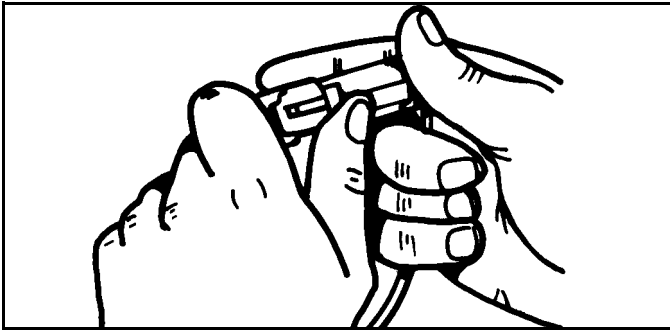

Figure 2-4
1. Open connector body. (See Figure 2-4)